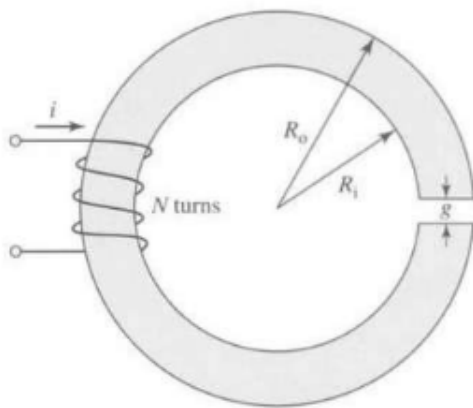

Figure 4
- **Question 8:** The magnetic circuit of Fig 4. consists of rings of magnetic material in a stack of height h . The rings have inner radius R_i and outer radius R_o . Assume that the iron is of infinite permeability and neglect the effects of magnetic leakage and fringing. For: